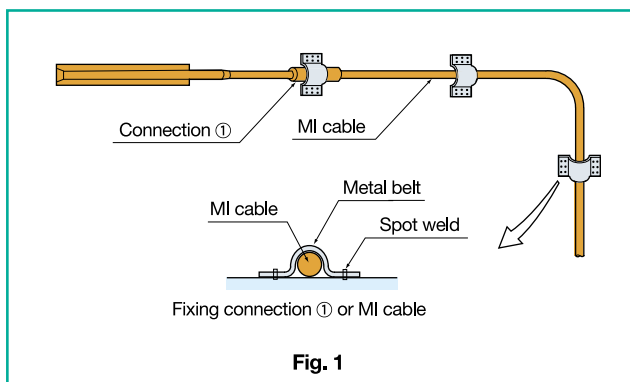

Fig. 1
- To prevent the sensing part from any damage due to tension or twisting caused by the weight or handling of the MI cable, fix the connection between the sensing part and MI cable, and the MI cable at proper intervals using accessory metal belts. Then, spot-weld the flange. (Fig. 1)